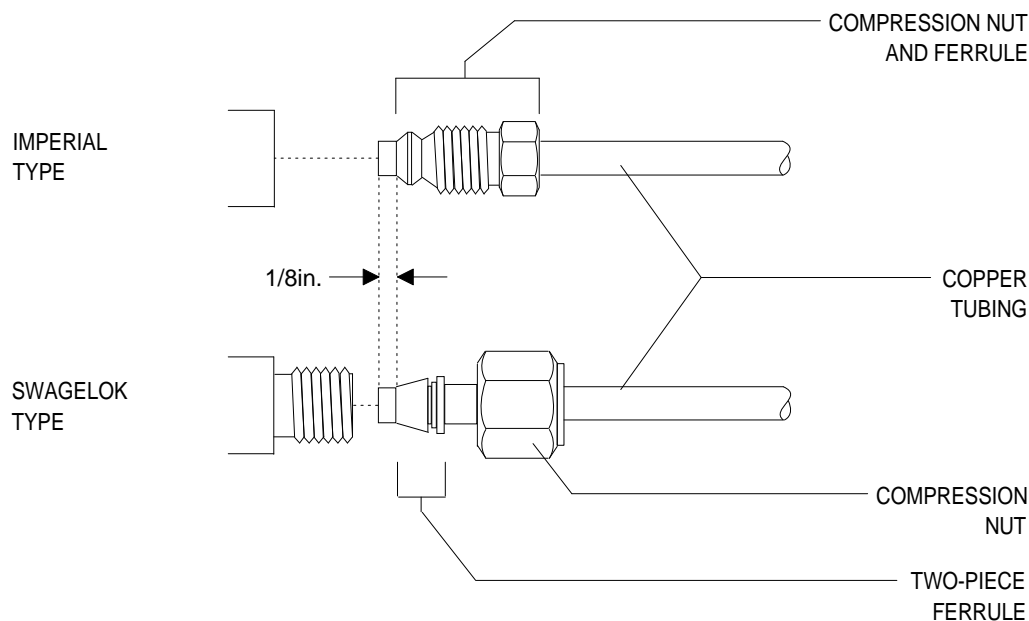

Figure 2: COMPRESSION FITTING STYLES
- Examine the tubing that was removed and determine the type of fittings to be used at the regulator connections. Figure 2 shows the correct assembly for two types of compression fittings.